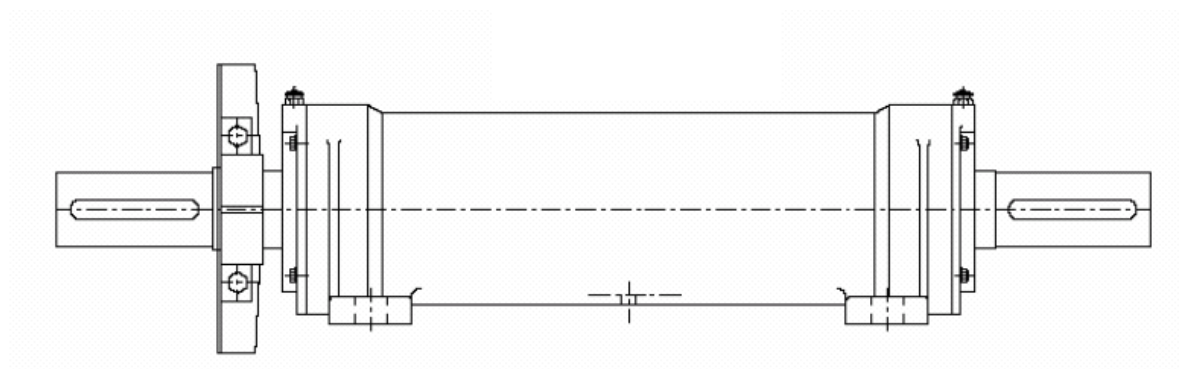

Fig. 10-12 Support with cooling fan
- 1.- For supports with a cooling fan installed, the cooling fan must first be dismantled (Fig. 10-12 Fig. 10-12).